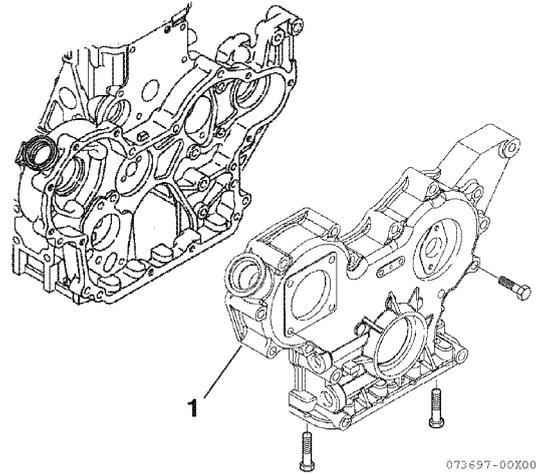

Figure 6-108
- Install the idler gear (A), idler gear shaft, and idler gear bushing while aligning the timing marks A and C. At this time, direct the punch mark on the idler gear shaft end surface to the upper part of the engine.
- While aligning the timing marks B and D of the idler gear (B), install the idler gear (B), idler gear shaft, and idler gear bushing.
- Apply a continuous bead of ThreeBond Liquid Gasket No. 1207F, YANMAR Part No. 977770-1207F to the mounting area of the gear case cover (1, **Figure 6-108**). Be sure to circle the bolt holes.